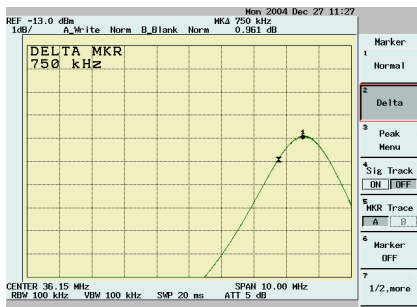

Fig. 1
- Calibrate **C20** and **L7** to tune the cell of I.C.P.M. to the frequency of the video carrier summing about 750kHz (Fig.1) with **JP4** on and **JP3** and **JP5** off.